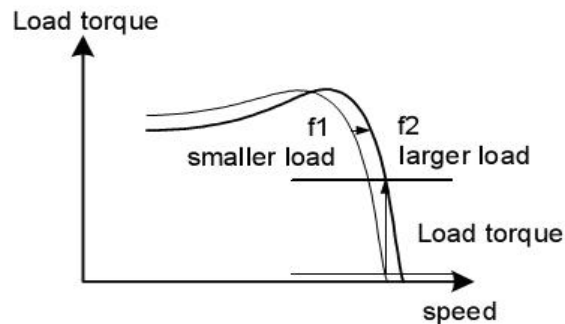

Fig.4-10 Slip Compensation Control
(3) Motor rated current (Cn-09)
(4) Motor no-load current (CN-10)
- As shown below Fig.4-10 the slip compensation function,output frequency f1-f2’s speed changed as the load changed.
(5) Motor rated slip (Cn-11)
- The setting is used as a reference Fig.4-10 slip compensation control.
- If in constant power range, the slip will increase linearly multiple, please refer to the Fig 4-10.